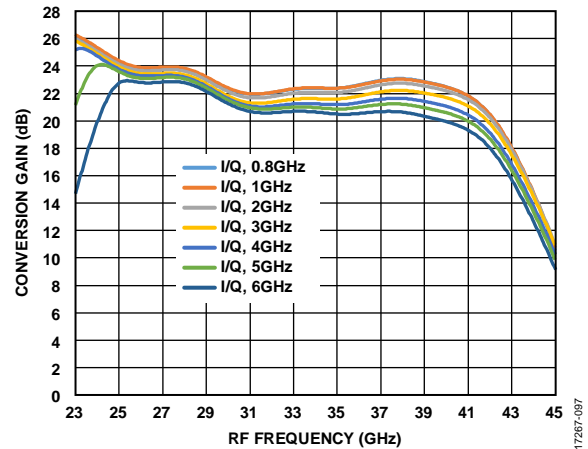
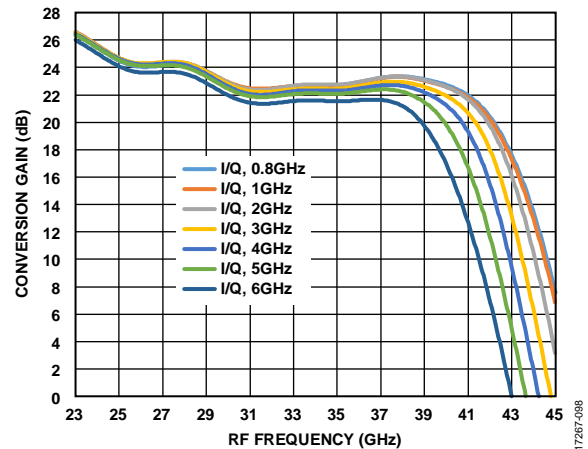

Figure 94. Conversion Gain vs. RF Frequency for Multiple Baseband Frequency Settings (Upper Sideband)
Figure 95. Conversion Gain vs. RF Frequency at Multiple Baseband Frequency Settings (Lower Sideband)
Figure 94 and Figure 95 show the conversion gain vs. RF frequency in I/Q mode for multiple baseband (BB) frequencies ($T_A = 25^\circ\text{C}$, $\text{LO} = 0 \text{ dBm}$) for upper sideband and lower sideband, respectively.